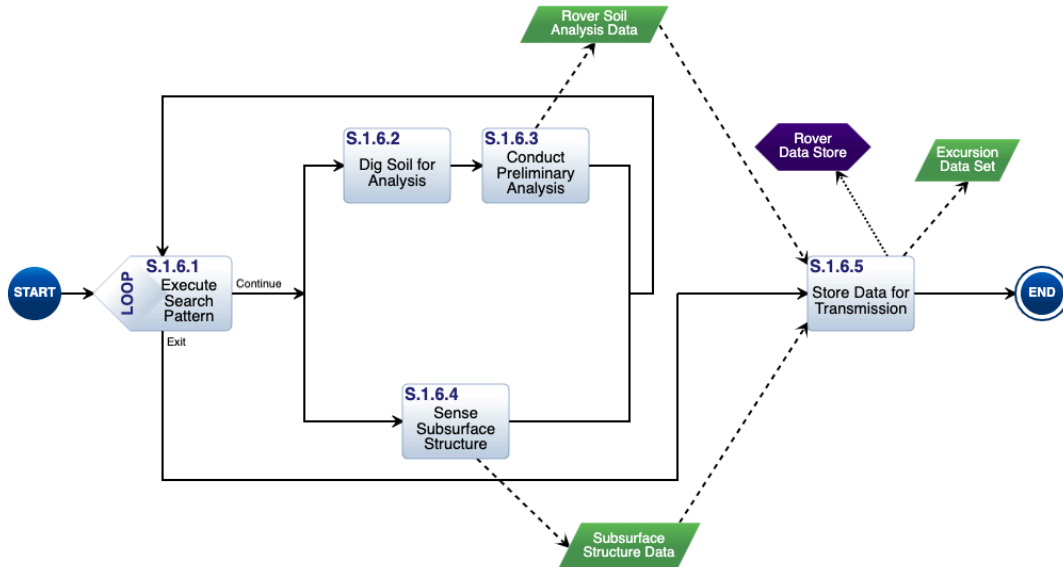

Figure 25: Survey Area Decomposition
8. Build the decomposed Action Diagram for the Survey Area, similar to Figure 25.